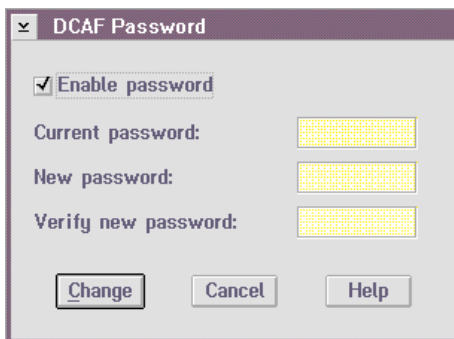

Figure 166. DCAF Password
3. Click on the **Enable password** check box (Figure 166).